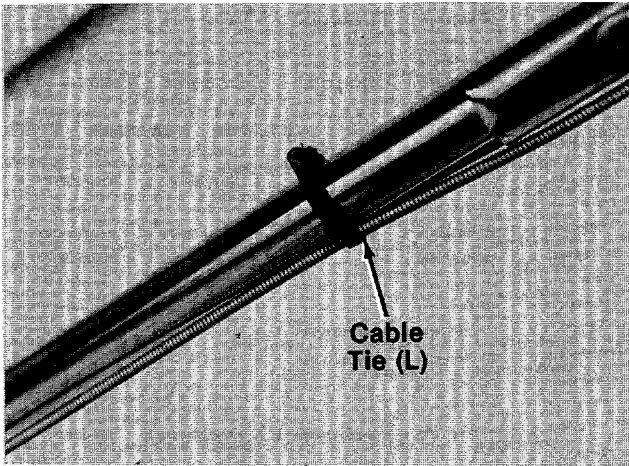

FIGURE 10.
- 15. Secure cables to upper and lower handles with cable ties (L). See figure 10.